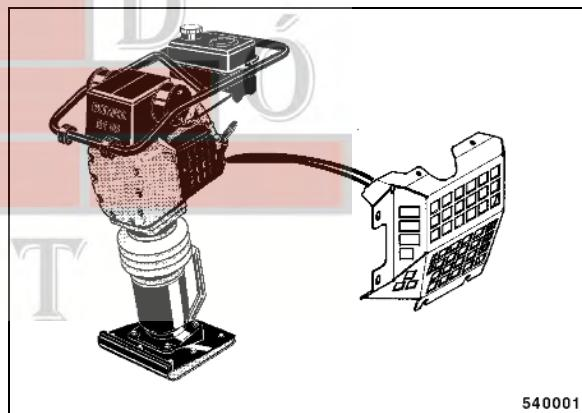

Fig. 61 □
- Remove the protection grid on the left hand side of the engine (Fig. 61).